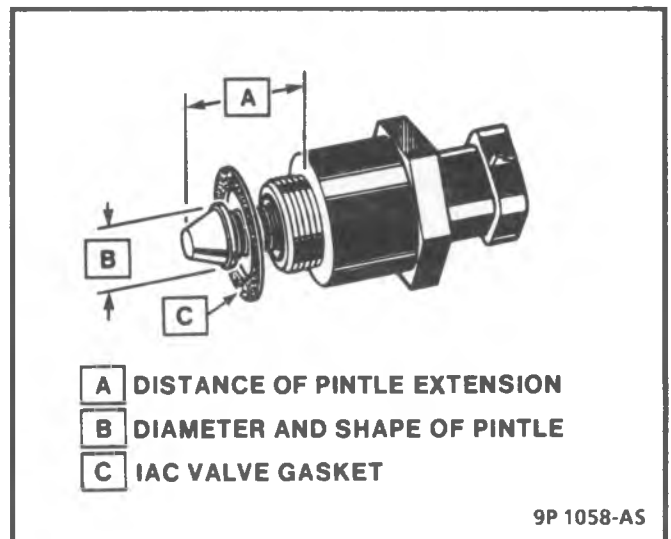

Figure 4-31 - Thread Mounted Type IAC Valve
### IDLE AIR CONTROL (IAC) VALVE-TBI 220 Figures 4-31 and 4-32
- On thread mounted units, use a 32 mm (1¼") wrench (Figure 4-31).
**Figures 4-31 and 4-32**